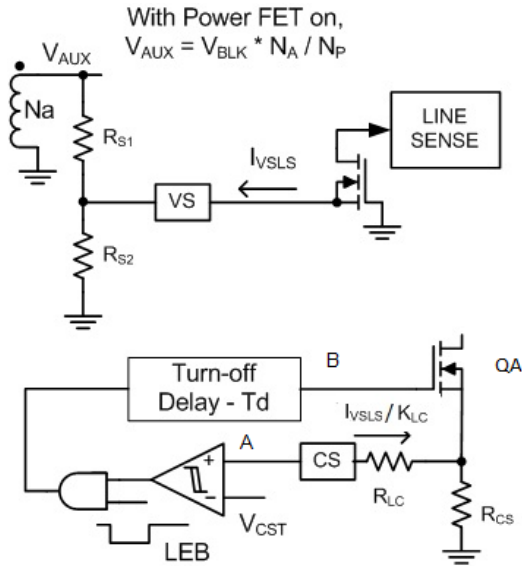

Figure 4, Peak Current Limit Comparator
Resistor  $R_{LC}$  provides offset to the peak current comparator input (CS).  $R_{LC}$  is adjusted to terminate the gate drive signal (B) early to prevent primary current (A) from over shooting [1]. Please refer to figures 4 and 5 for details.